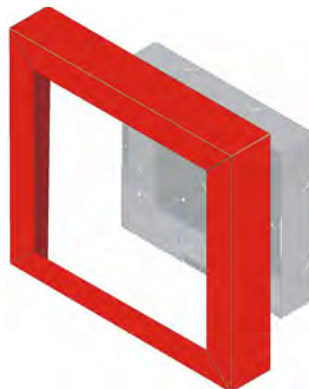

Figure 4.31 Installing Trim Ring
4. Place the trim ring over the back box as shown in Figure 4.31.